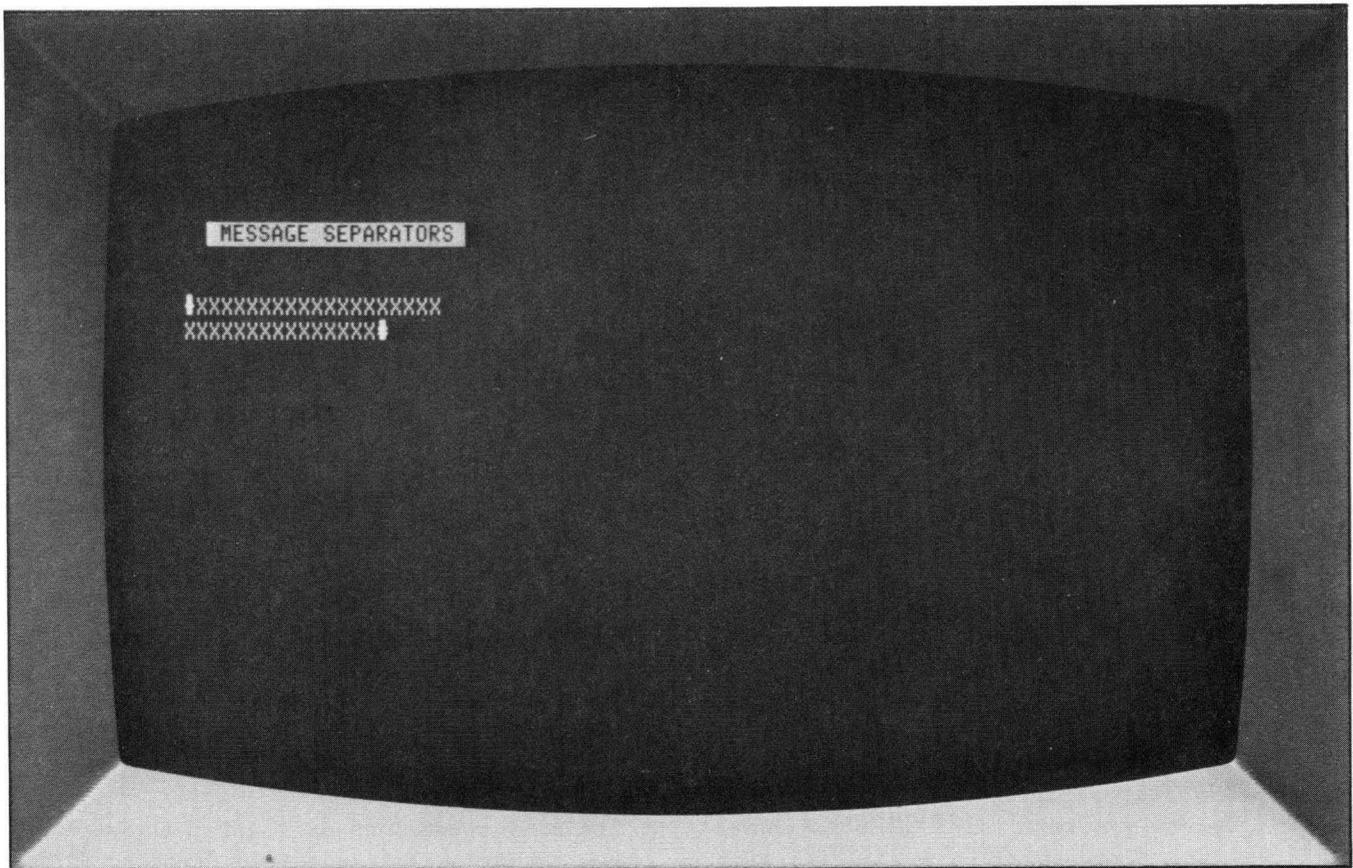

Fig. 6-7. Data Input described and "Example of Transmission Control Circuit operation."
**EXAMPLE OF TRANSMISSION CIRCUIT OPERATION.** Assume that the information displayed in Fig. 6-7 is to be transmitted to the computer. It contains two lines of information, preceded and ended by Message Separator (CR or ETX) codes. Refer to the transmission state diagram when reading the following.